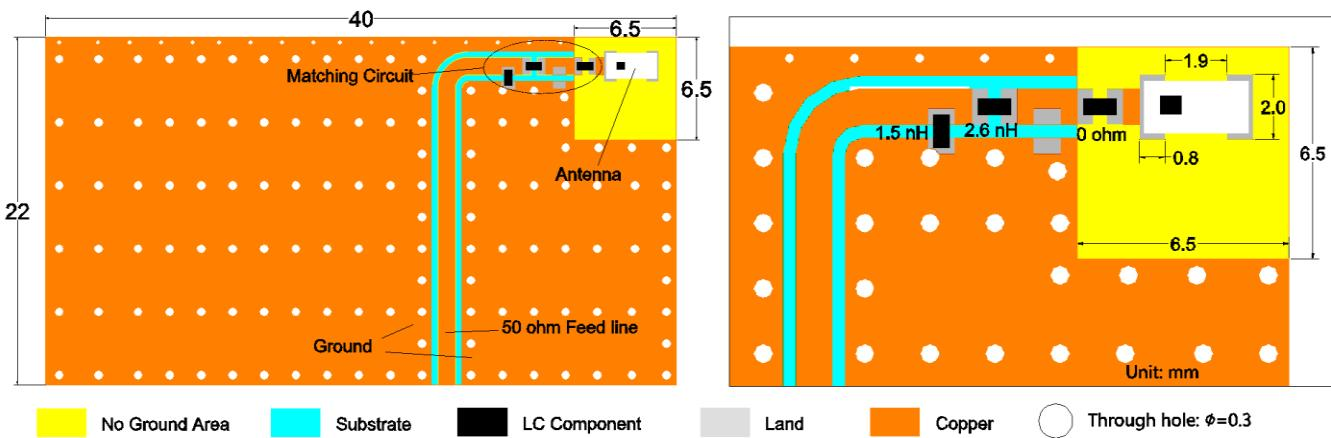

Fig. 4-2
2) Recommended Land Pattern: See **Fig.4-2**
* The proposed pi-shaped matching circuits and LC component values in Fig.4-2 are based on our evaluation board. The actual matching circuits need to be adjusted when the antenna is applied in the client's design, because the antenna impedance is easily affected by PCB layout.